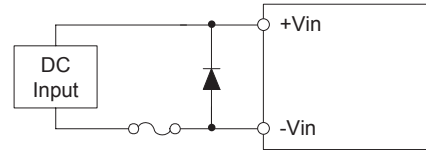

Fig.3.3 Reverse input voltage protection
(4) Reverse input voltage protection
■Avoid the reverse polarity input voltage. It will damage the unit. It is possible to protect the unit from the reverse input voltage by installing an external diode as shown in Fig.3.3.